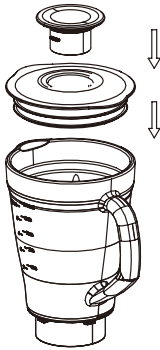

Fig 1
1. Mount the Measuring cup (9) onto the Jug lid (10) and turn it tight. Secure the Lid onto the Blender jug and press down (Fig 1)